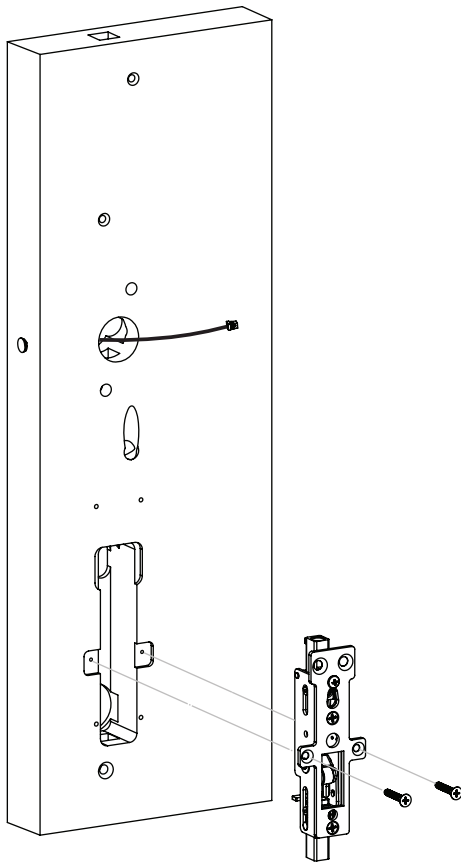

Figure 7-3A
A. Wood Door (WD)
1. Install the inner case assembly with two (2) #12x1" Phillips flathead screws (Figure 7-3A).